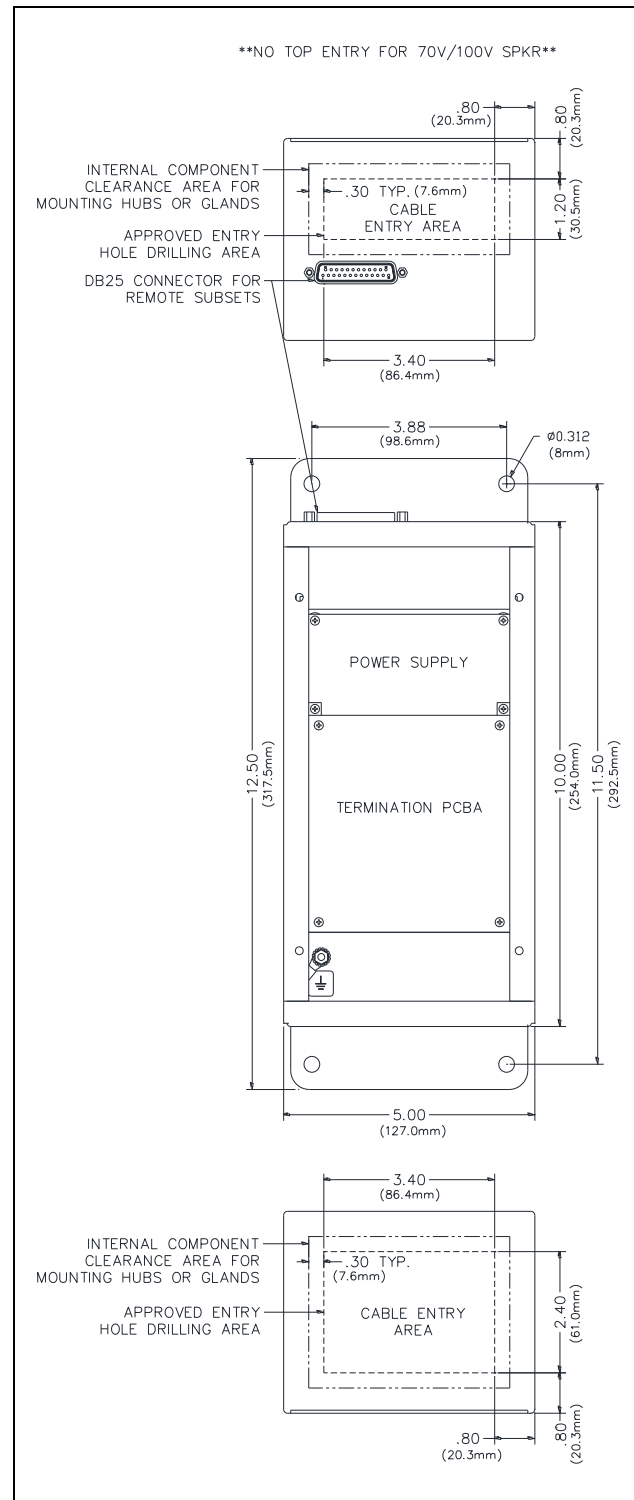

Figure 2. Suggested Wire Entry Locations
1. Mount the enclosure using the four 0.312-inch (8 mm) diameter holes located on the mounting flanges with ¼-inch (M6) hardware (see Figure 2).
4. Drill or punch entry openings in the rear section of the enclosure (see Figure 2).